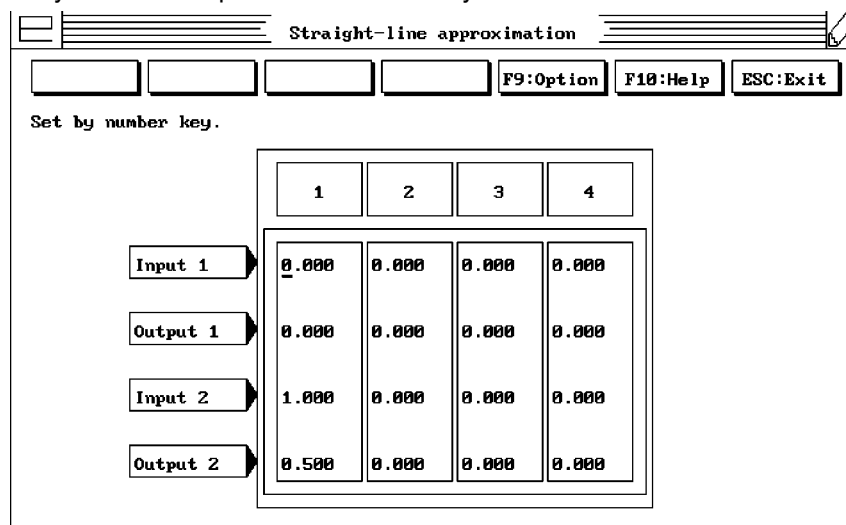

Figure 8
4. Select **SCL (straight-line approximation)** button. The **Straight-line approximation** menu (Figure 8) will appear. For the food sterilization example, you must complete the table exactly as shown.